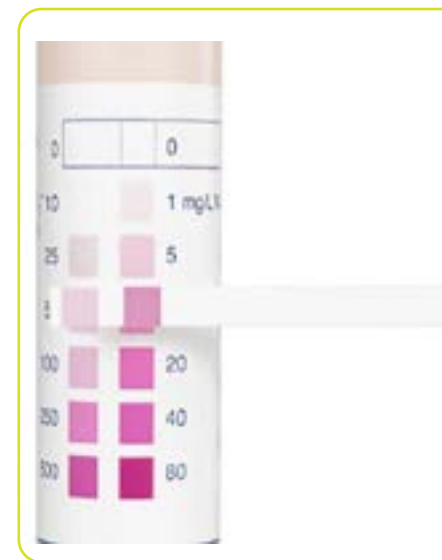

Figure 7: The test strip colour indicates the concentration of dissolved nutrients in the soil water sample.
8. Compare the strip with the color chart on the container to determine the concentration of dissolved nutrients (Figure 7).